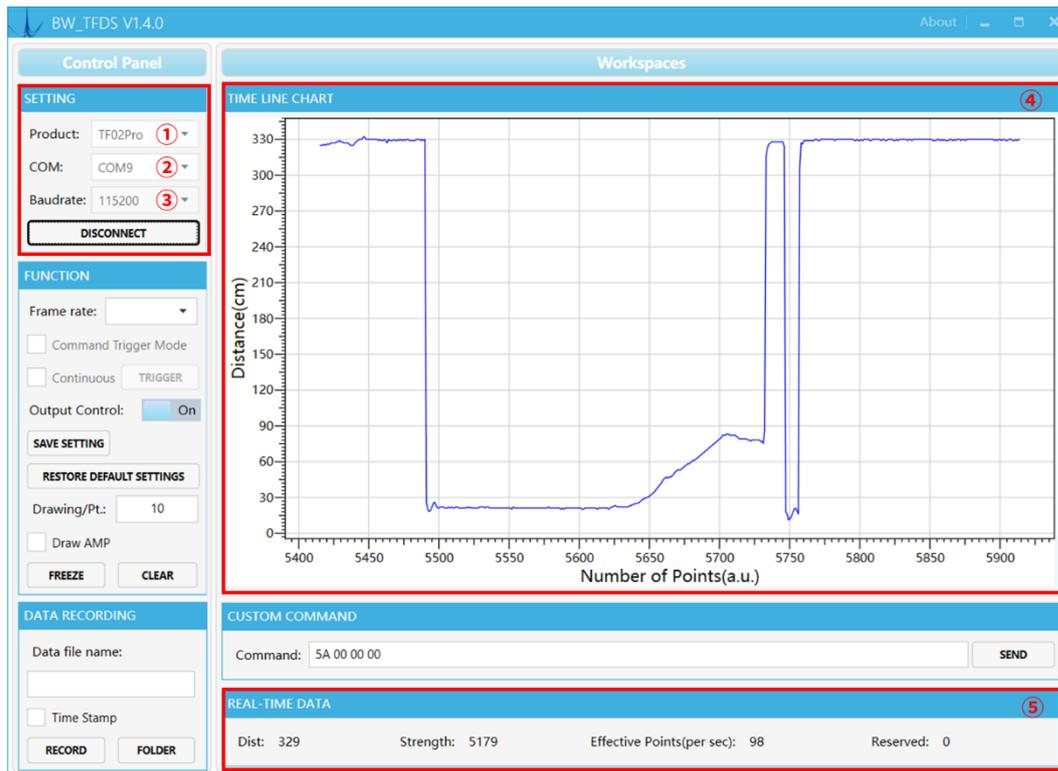

Figure 5-2 BW\_TFDS software interface and display
Run BW\_TFDS software, select "① TF02-Pro" and select automatically recognized communication port (here it is "② COM9"), choose the right baud rate (here it is "③ 115200"), as shown in Figure 5-2.